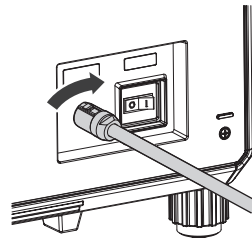

Fig. 2
- 2) While inserting the power cord connector into the projector, turn clockwise to the end. (Fig. 2)